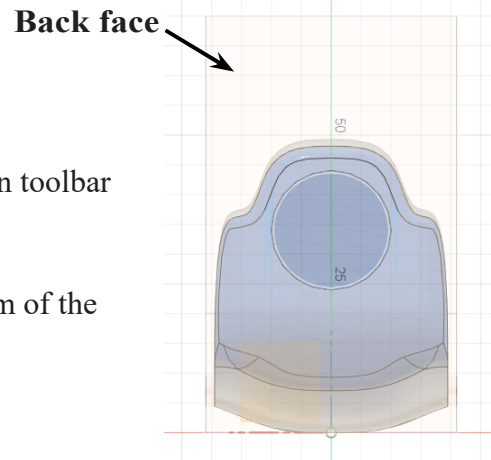
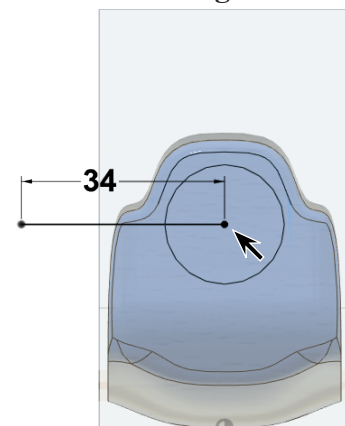

Fig. 7
Fig. 8
- Step 1. Click **Back view** on View Cube  , **Fig. 7**.
- Step 2. On the Solid tab **SOLID** click **Create Sketch**  in toolbar and click **back face** of Blank body, **Fig. 7**.
- Step 4. Click **Line**  (L) on the toolbar.
- Step 5. Sketch a **horizontal line to the left from the centerpoint of the cartridge hole**, **Fig. 8**.
- Step 6. Click **Dimension**  (D) on the toolbar.
- Step 7. Dimensions line **34**, **Fig. 8**.